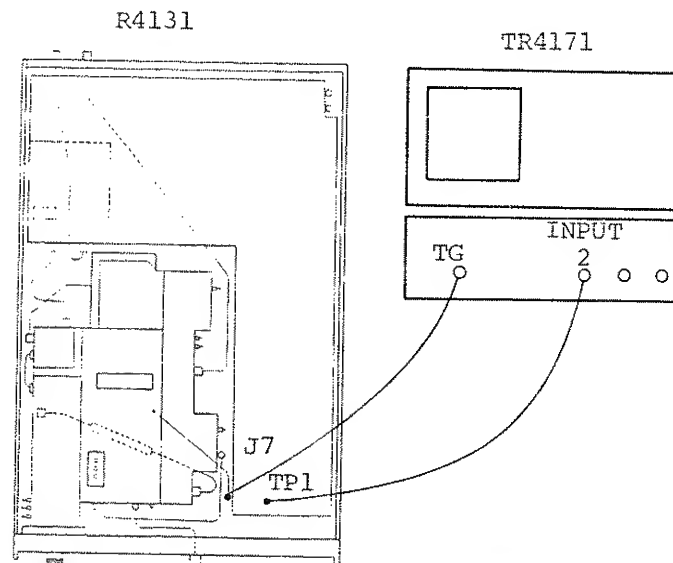

Figure 10-2 3.58 MHz BPF Adjustment
- ② Connect the units as shown in Figure 10-2.